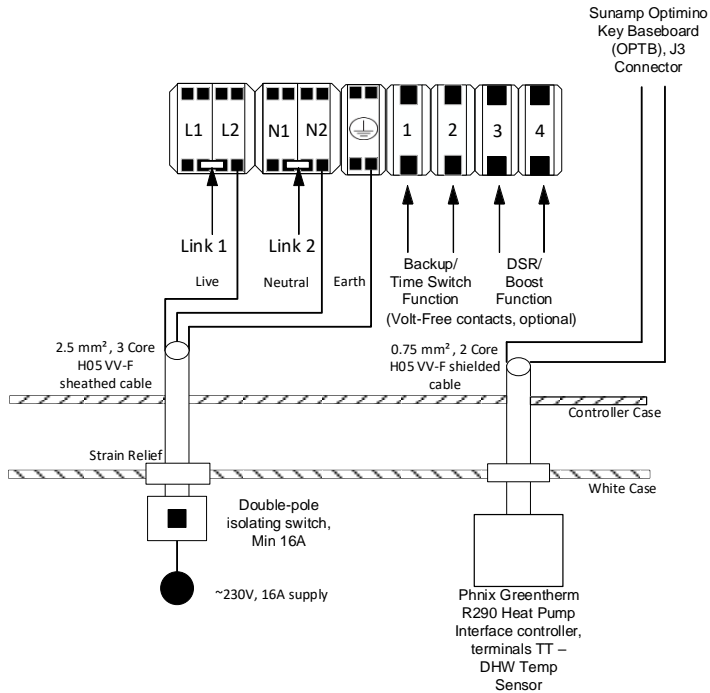

Figure PX.1 – Thermino xPlus with PX01 Optimino Key
- Thermino xPlus with the “PX01” & “PX02” Optimino Keys (D0084 – Section 6.3.2 for wiring instructions & Figure PX.1 below)
J3 on the Optimino Board J3, please see Figures PX.1 & PX.2 below for reference.